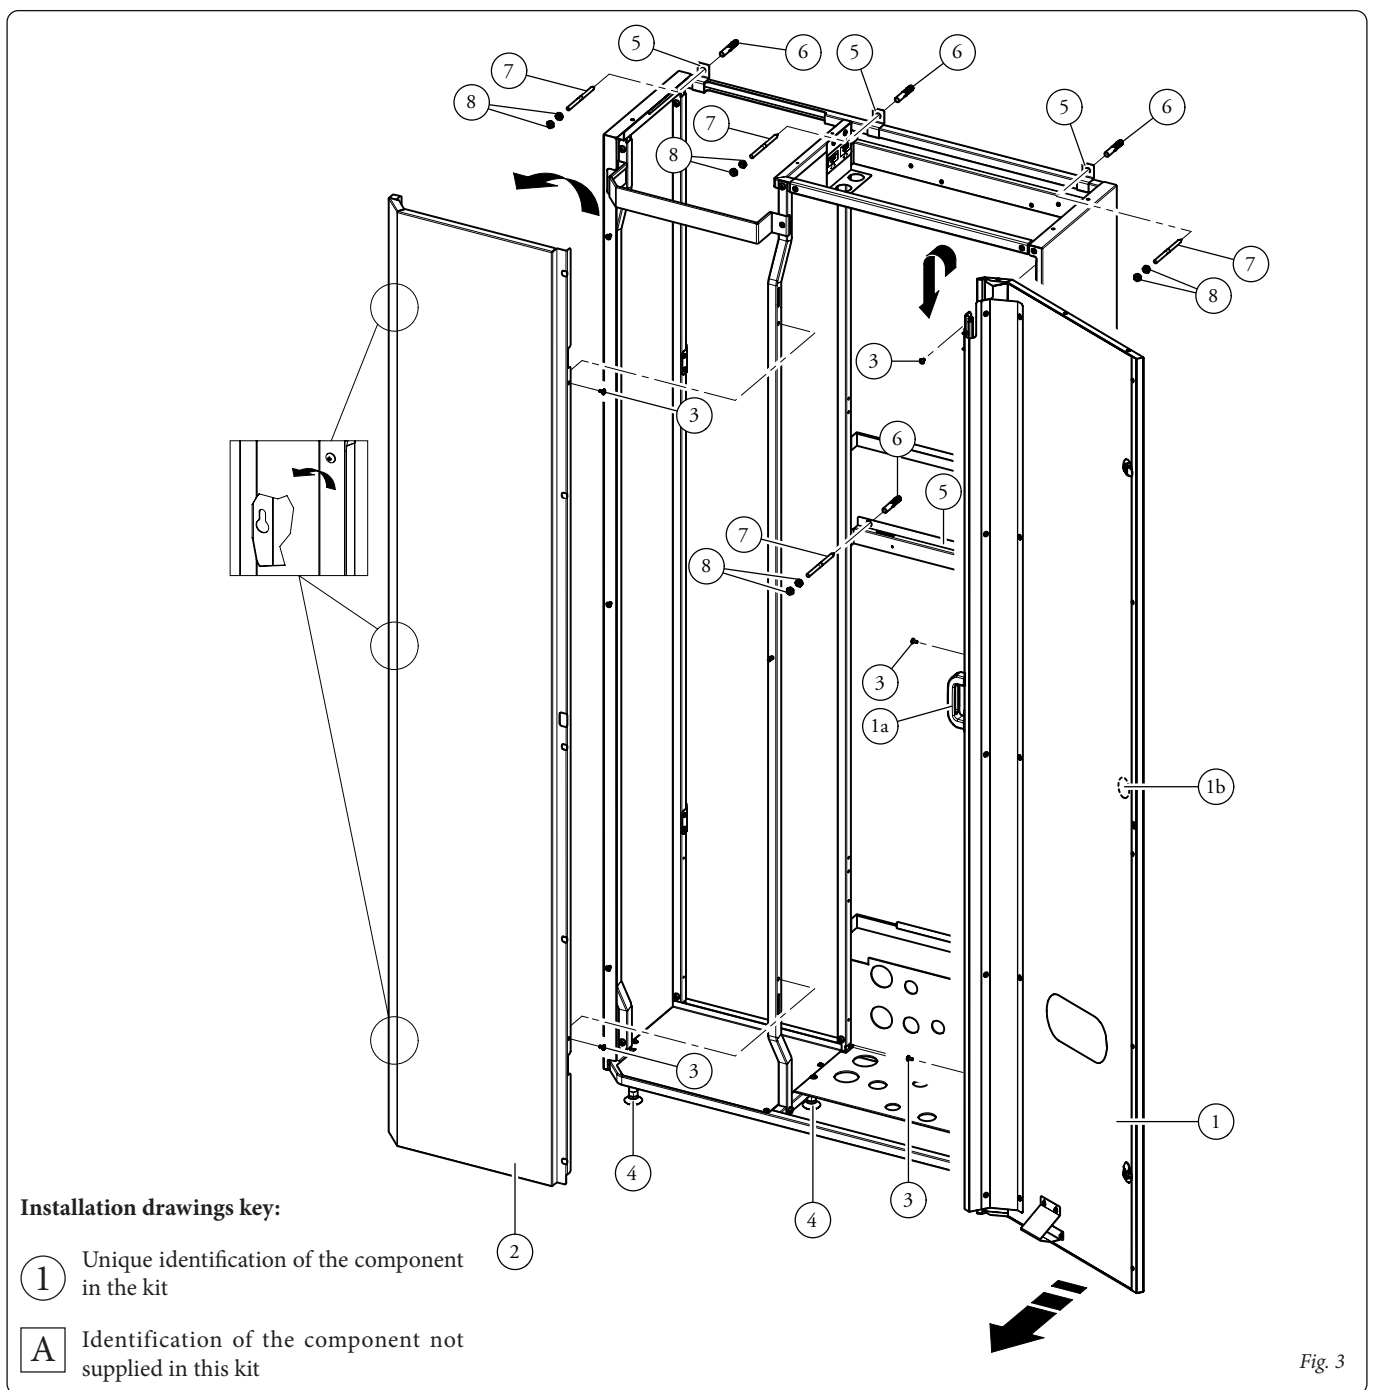

Fig. 3
N.B.: to remove the front door (1) after having loosened the appropriate screws (3), grip the handle (1a) with your left hand and the knob (1b) with your right hand.
- Proceed by levelling the Domus Container using the provided levelling feet (4).
- Make 4 Ø 10 mm holes on the wall in correspondence with the holes of the brackets (5).
- Fix the Domus container on the wall using the Ø10x60 wall plugs (6), screws (7) and nuts (8) supplies (Fig. 3).